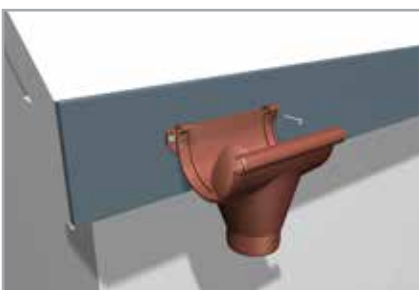

Fig. 7
- 3.1 Determine the location of the outlet. Remember the outlet should always be the lowest point of the gutter system **(Fig. 7)**